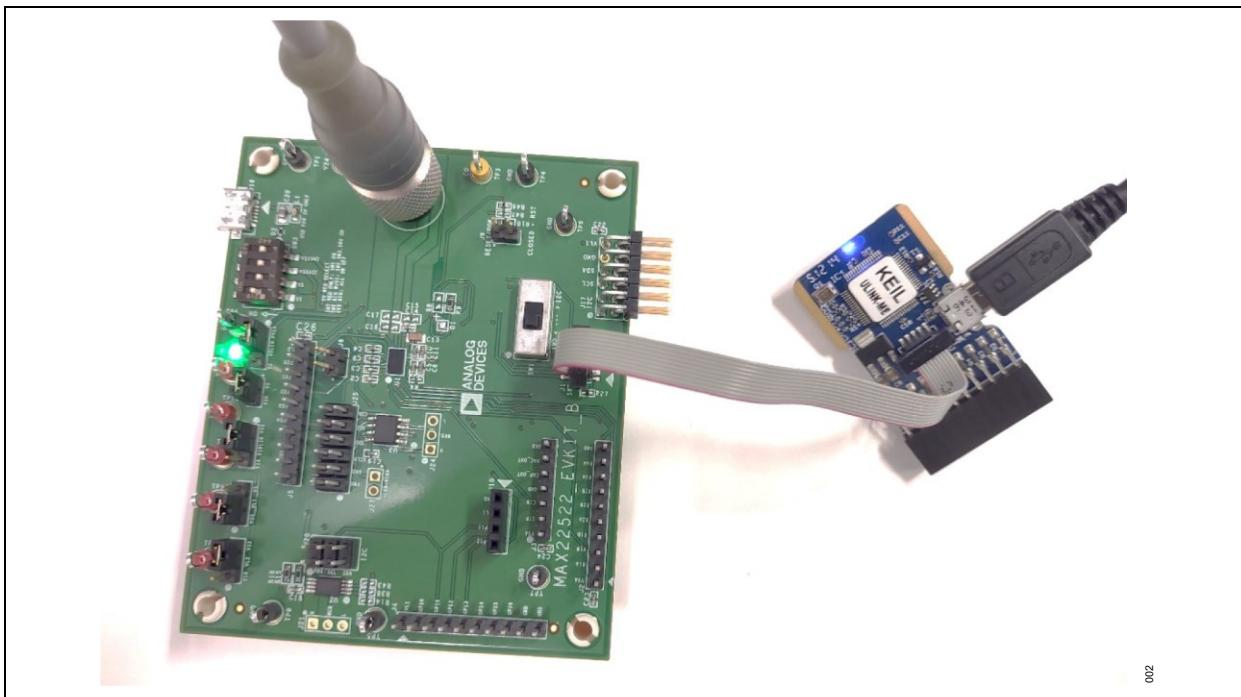

Figure 1. MAX22522 EV Kit Serial Debugger Connection
1. Connect the serial debugger controller to the J1 header, as shown in Figure 1.